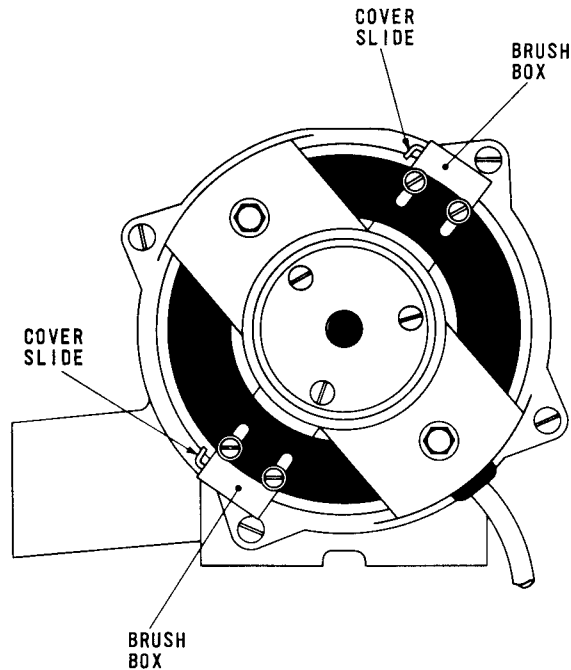

Fig. 3.2 GOVERNED MOTOR — LEFT-HAND END
3.6 Remove the motor from the machine main base in the manner recommended in Part 5, page 3. Take off the cover over the commutator end of the motor, exposing the commutator and brushes. Examine the length of the brushes as seen through the slot in the side faces of the brush boxes, Fig.3.2, and note whether any coils of the brush springs can be seen. If so, fit a new brush and spring assembly in the following manner.